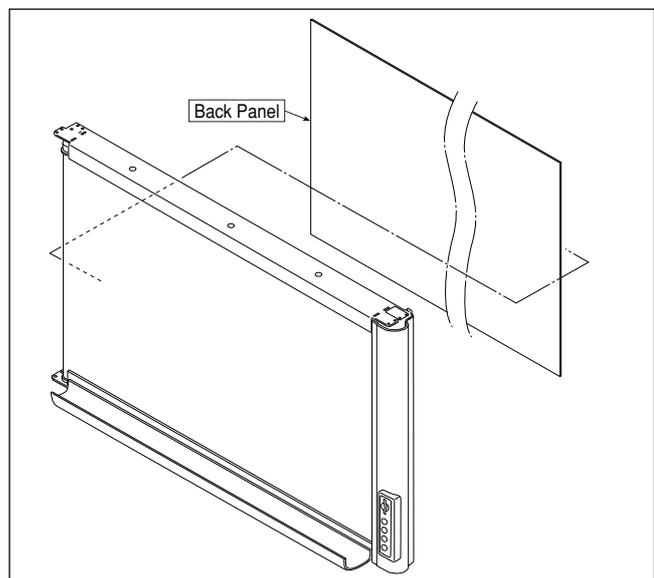

Fig. 3
### 3) Remove the Back Panel. (See Figure 3.)
1. Remove the Mounting Button shown in Figure 3.